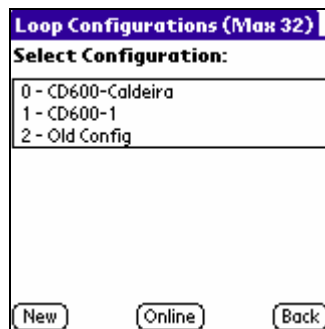

Figure 3
**Loop Configurations (Figure 3)**- The Loop Configurations screen is the starting point of the configuration to be created. There are three types: